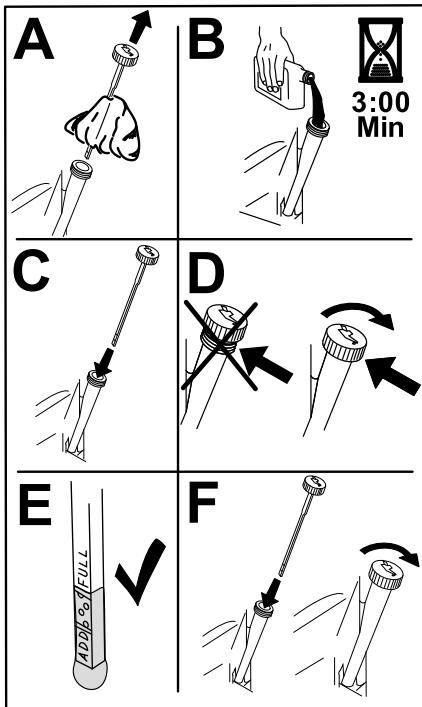

Figure 48
6. Slowly pour approximately 80% of the specified oil into the filler tube and slowly add the additional oil to bring it to the Full mark (Figure 48).